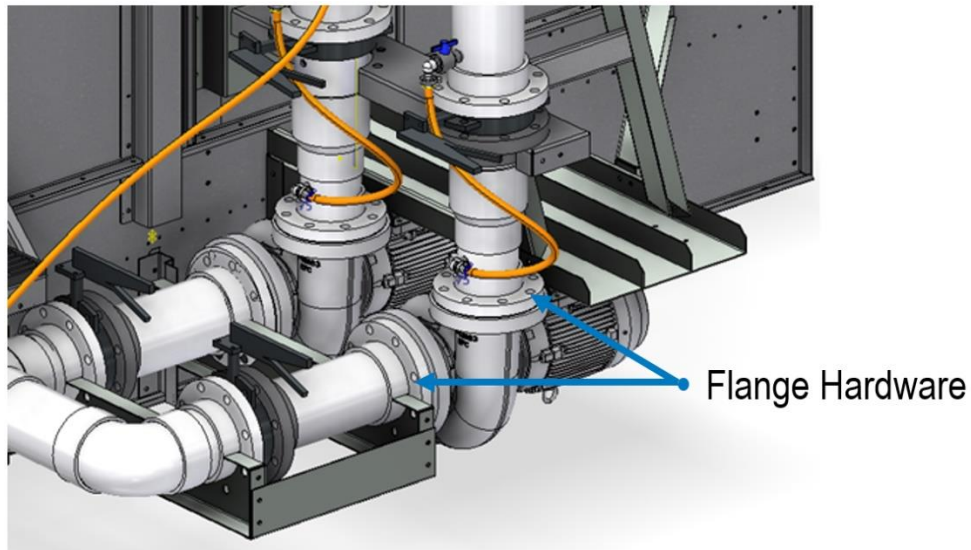

Figure 16. Pump Volute Flanges
4. Loosen and remove the flange hardware and gaskets from the suction and discharge flanges of the pump volute. See **Figure 16**. Pump flange connection uses 3/4"x3-3/4" hardware. NOTE: Do not remove hardware from the discharge or suction valves.
2. Attach the flange hardware and gaskets to the suction and discharge flanges of the pump volute. See **Figure 16**. Pump flange connection uses 3/4"x3-3/4" hardware. Torque flange hardware to 40 ft-lbs. Do not overtighten.